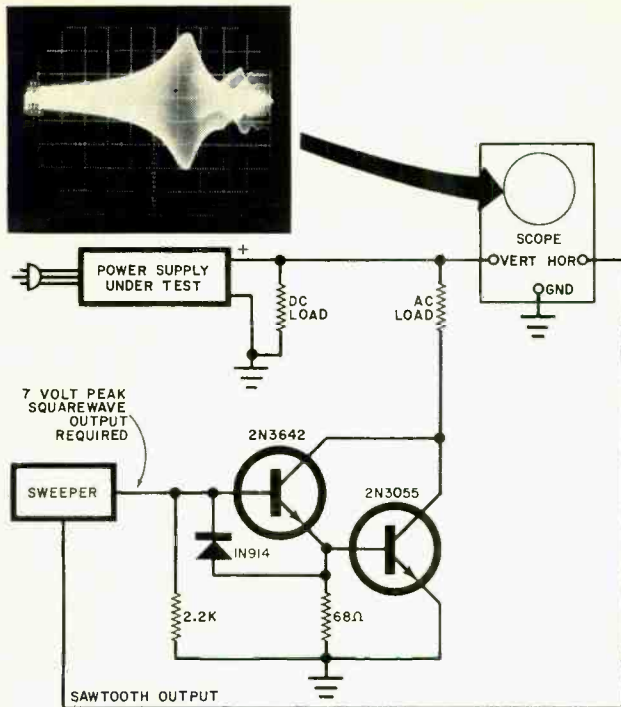

Fig. 10. Test for output impedance versus frequency of a power supply can be made by using this setup. A typical scope display is upper left.
**Power Supplies.** Figure 10 shows a sim-